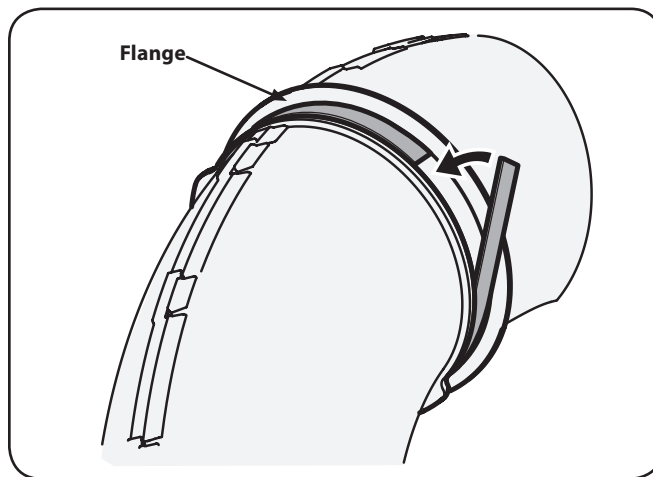

Figure 4-24
14. Peel the backing off of the self-adhesive foam strip (721-04388) that has been included with your grass collector. Apply it to the upper chute, flush against the flange as shown in Figure 4-24.